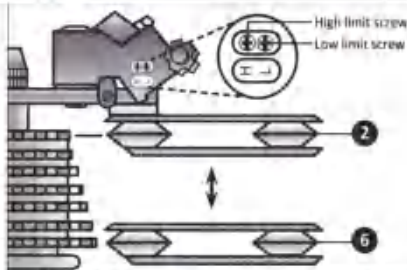

Figure 14.2
- ② Adjust the high limit screw (H) so the guide pulley and the smallest sprocket are lined up. Figure 14.2
- ③ Reconnect the cable, pull out any slack, and retighten the anchor bolt securely.
- ④ Shift through the gears, making sure each gear achieved is done quietly and without hesitation. If necessary, use the barrel adjuster to fine tune each gear by turning it in the direction you want the chain to go. For example, turning clockwise will loosen the cable tension and move the chain away from the wheel, while turning counter-clockwise will tighten cable tension and direct the chain towards the wheel.
- ⑤ Shift the rear shifter to the gear one and place the chain on the largest cog.
- ⑥ Adjust the low limit screw (L) in quarter turn increments until the guide pulley and the largest cog are aligned vertically.
- ⑦ Again shift through each gear several times, checking that each gear is achieved smoothly. It may take several attempts before the rear derailleur and cable is adjusted properly increments until the guide pulley and the largest cog are aligned vertically.